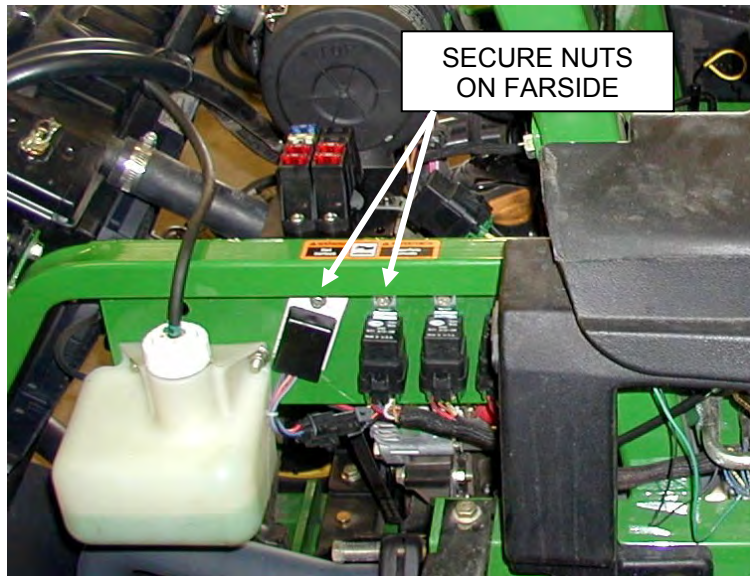

Figure 3-5
- 3.5) Remove two nuts that secure two relays located on the right side of the engine compartment (See Figure 3-5).